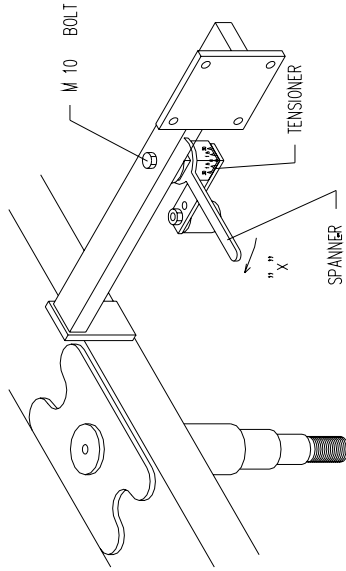

Fig. 2
- Gearbox Drive chain: Adjust after first days work then check/adjust every 50 hours. See Fig. 2